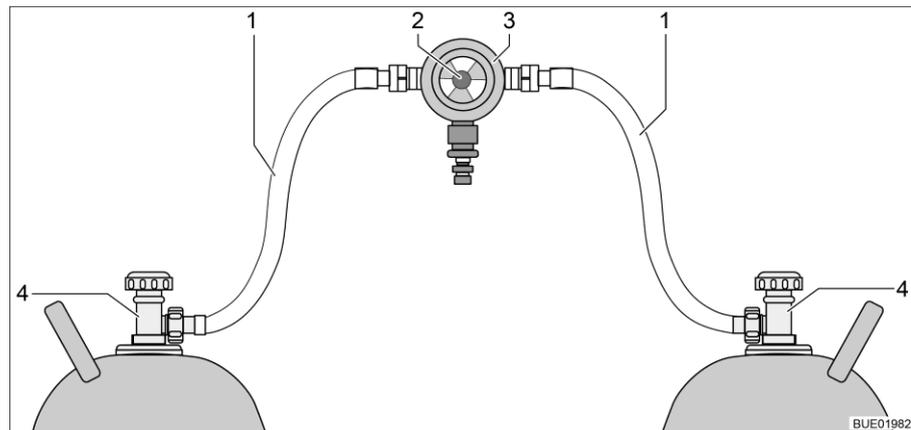
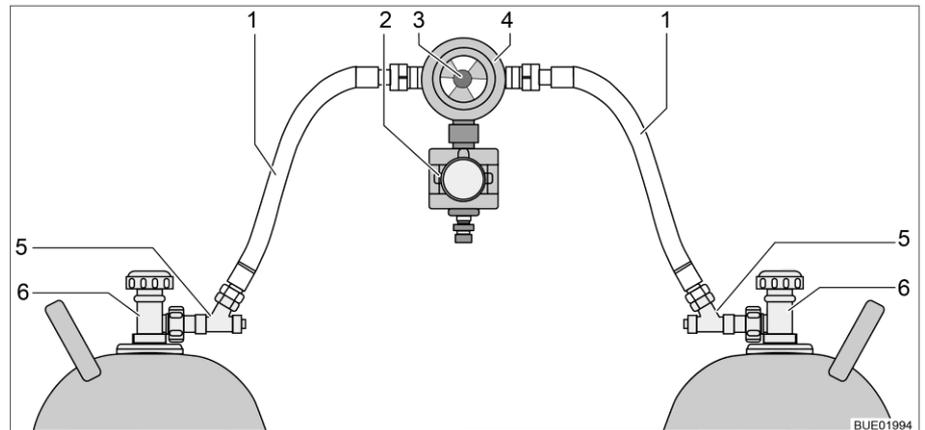

Fig. 101 Gas bottle switching facility
Fig. 102 Gas bottle switching facility with CPU
The gas bottle switching facility consists of a combined gas pressure regulator with reversing valve and indicator (Fig. 101,3). The gas bottle switching facility is installed between the two gas tubes (Fig. 101,1).
The gas bottle switching facility consists of a combined gas pressure regulator with reversing valve and indicator (Fig. 102,4), and an electrovalve (Fig. 102,2). The electrovalve blocks the gas supply to the vehicle in the event of a full braking, an accident, or an unusually great inclined position. The gas bottle switching facility is installed between the two gas tubes (Fig. 102,1) with hose break guards (Fig. 102,5).
Use the knob (Fig. 101,2 or Fig. 102,3) on the gas bottle switching facility to select which of the gas bottles is to be used as a primary bottle and which is to be used as a reserve bottle.
Only the electrical functions can be switched at the operating unit (Fig. 103). The regulator taps on the gas bottles (Fig. 101,4 or Fig. 102,6) must be opened and closed manually.
- Open the regulator taps of the gas bottles (Fig. 101,4 or Fig. 102,6).
- Press the hose break guards (Fig. 102,5) successively for 10 seconds.
- Use the knob (Fig. 101,2 or Fig. 102,3) on the switching facility to select the gas bottle which is to be the primary source of gas (primary bottle). Always turn the knob as far as it will go.
- Close the regulator taps of the gas bottles (Fig. 101,4 or Fig. 102,6).